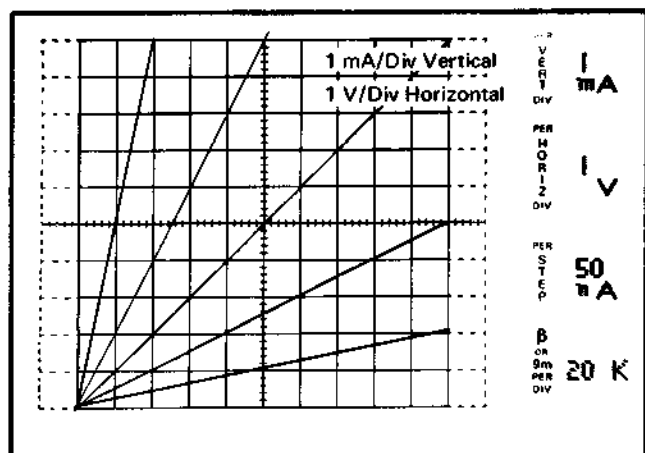

Fig. 2-6. Display of I vs. V for a 1 k Ω resistor using various settings of the VERTICAL and HORIZONTAL switches.
17. Turn the VERTICAL switch clockwise and note that as the vertical deflection factor decreases the slope of the line decreases (see Fig. 2-6). Turn the VERTICAL switch counterclockwise from the 1 mA position and note that the slope increases. Also note that the PER VERT DIV readout changes in accordance with the position of the VERTICAL switch. Reset the VERTICAL switch to 1 mA.